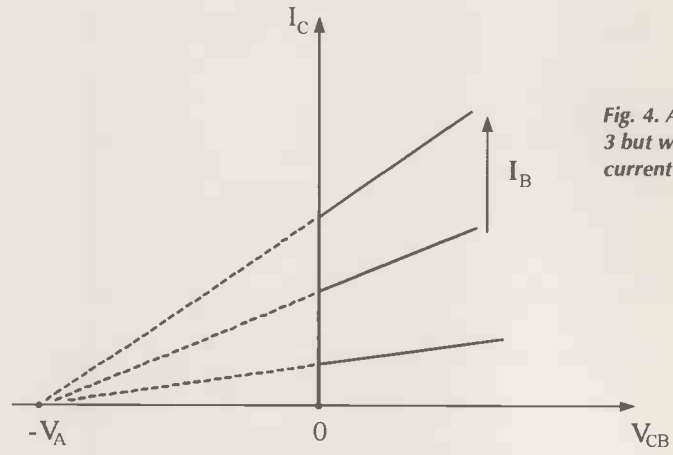
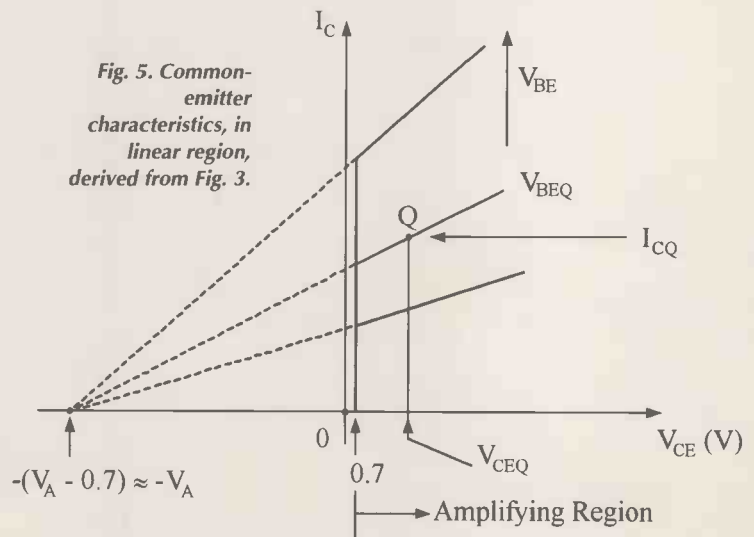
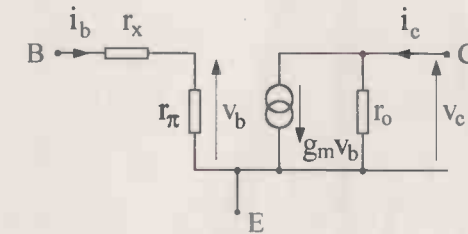

Fig. 4. As for Fig. 3 but with base current drive.
Fig. 5. Common-emitter characteristics, in linear region, derived from Fig. 3.
Fig. 9. Showing three choices for a small-signal low-frequency equivalent circuit of the bjt.
For a given  $V_{CB}$ , the relevant output characteristics with  $I_B$  the controlling parameter, are now equally spaced, Fig. 4. Rather than  $I_C$  as a function of  $V_{CB}$ , we are often more interested in  $I_C$  as a function of  $V_{CE}$ . To determine this we substitute  $V_{CB}=(V_{CE}-V_{BE})$  in eqn (13).
In that case the output characteristics are shown in Fig. 5. They are those of Fig. 4 shifted horizontally to the right by 0.7 V. Figure 6 is derived, similarly, from Fig. 4.
The  $I_{BQ}$  of Fig. 6 is chosen to correspond to  $V_{BEQ}$  in Fig. 5. Incremental resistance at operating point Q is given by,
Three choices for the small-signal low-frequency equivalent circuit of the bipolar transistor are shown in Fig. 9. These are constructed from the parameters, already defined, by standard model building procedures as, for example, in ref. 4. Thus, the output circuit of Fig. 9a) is developed from Fig. 5 by considering small changes about the point Q and the output circuit of Fig. 9b) is similarly related to Fig. 6.